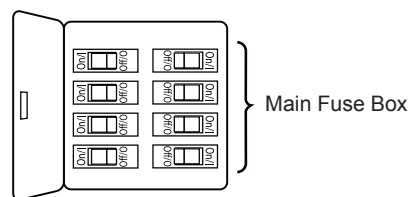
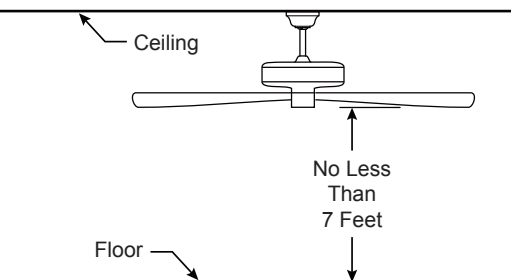

Figure 1
Figure 2
Your new ceiling fan will require a grounded electrical supply line of 120 volts AC, 60 HZ, 15 Amp Circuit. Electrical code requires use of a fan-rated outlet box to support the extra weight and motion associated with a ceiling fan. A fan-rated outlet box will be labeled as such and typically supports up to a 70lb ceiling fan. Fan-Rated Outlet Boxes vary in ratings and design. Ensure the ratings of your ceiling fan outlet box meet the requirements for the ceiling fan being installed. Figure 1, Figure 2 and Figure 3 depicts different structural configurations that may be used for mounting the outlet box.
Low profile outlet box (Figure 1)
Deep outlet box (Figure 2)
1. Remove the hanger ball portion from the downrod/hanger ball assembly by loosening the set screw in the hanger ball until the ball falls freely down the downrod. Remove the pin from the downrod, then remove the hanger ball. Retain the pin and hanger ball for reinstallation in Step 6. (Figure 1)
2. Remove the hairpin clip and clevis pin from the bottom of the downrod. Retain the pin and clip for reinstallation in Step 4. (Figure 2)
To avoid possible fire or shock, be sure electricity is turned off at the main fuse box before hanging. (Figure 1)
The fan must be hung with at least 7' of clearance from floor to blades. (Figure 2)
1. To set the code on receiver unit, slide dip switches to the same positions as set on the remote control. (Figure 1)
To avoid possible electrical shock, be sure electricity is turned off at the main fuse box before wiring. (Figure 2)
1. Assemble canopy by rotating key slot in canopy over shoulder screw in hanger bracket, taking care not to pinch the wires. Fully assemble and tighten second shoulder screw that was previously removed, then tighten another shoulder screw. (Figure 1)
2. Securely attach and tighten the canopy screw cover over the shoulder screws in the hanger bracket utilizing the key slot twist-lock feature. (Figure 2)
1. Secure the blades to the bottom of the motor assembly flywheel using the 3/16"-24 truss head screw with spring washer/flat washer. Make sure the notch of blade is fully seated into the tab of motor assembly flywheel. (Figure 1)
- ☐ 1. Remove one of the four screws in the support bracket at the bottom of the motor assembly. Retain the screw for later and slightly loosen the remaining three screws. (Figure 1)
- ☐ 2. Assemble the light housing assembly to the support bracket using the three key slots in the light housing assembly. Replace the previously removed screw and securely tighten all four screws. (Figure 2)
- ☐ 1. **IMPORTANT:** Using a full range dimmer switch (not included) to control fan speed will damage the fan. To reduce the risk of fire or electrical shock, do not use a full range dimmer switch to control the fan speed. (Figure 1)
- ☐ 2. Restore electrical power to the outlet box by turning the electricity on at the main fuse box. (Figure 2)